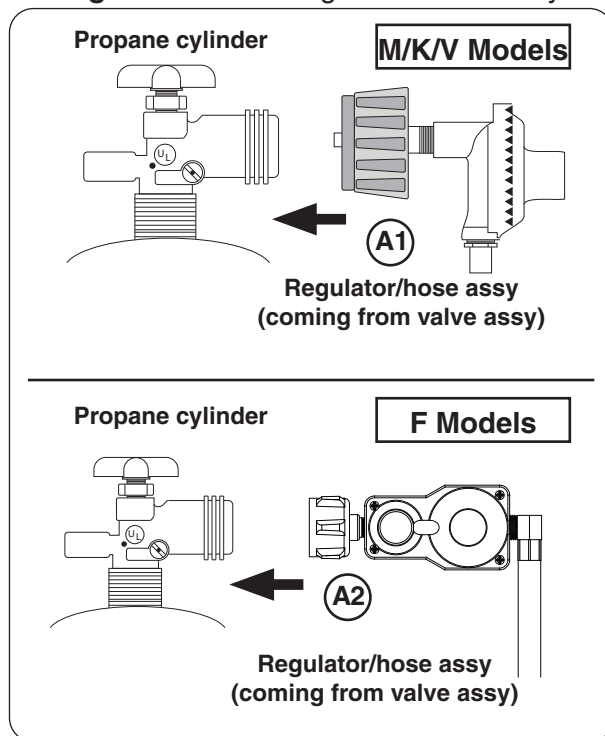

Fig. 35-2 Connecting hose assy to L.P. cylinder
2. Attach the regulator end of the hose assembly to a propane cylinder (not included) and tighten (see Fig. 35-2, A1 or A2).